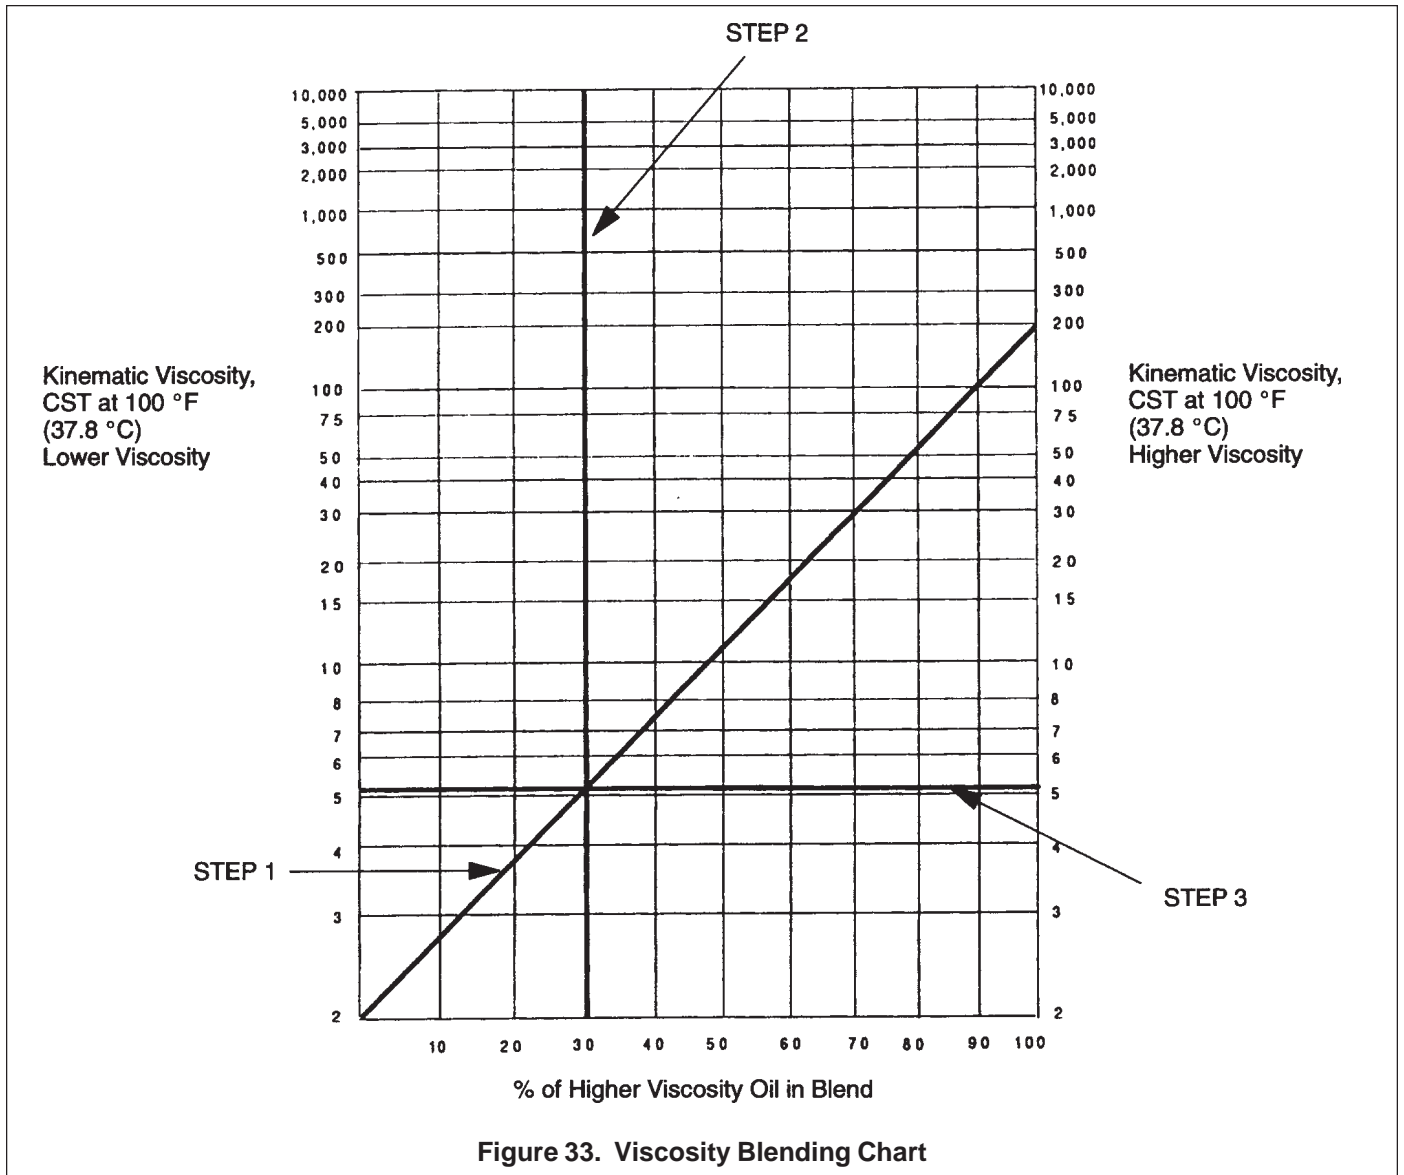

Figure 33. Viscosity Blending Chart
When blending two lubricants of different viscosities, use the viscosity blending chart in Figure 33 to determine the blended viscosity as outlined in the following four steps:
1. Draw a line to connect the lower viscosity value (2 cst in this example) on the left side of the chart to the higher viscosity value (200 cst in this example) on the right side of the chart. (See Figure 33, STEP 1.)
2. Draw a vertical line from the percentage of the higher viscosity component (30% in this example) to intersect the line drawn in Step 1. (See Figure 33, STEP 2.)
3. Draw a horizontal line from the intersection point of the first two lines to either the lower or higher viscosity value scale on either side of the chart. This is the approximate blended viscosity (5 cst in this example). (See Figure 33, STEP 3.)